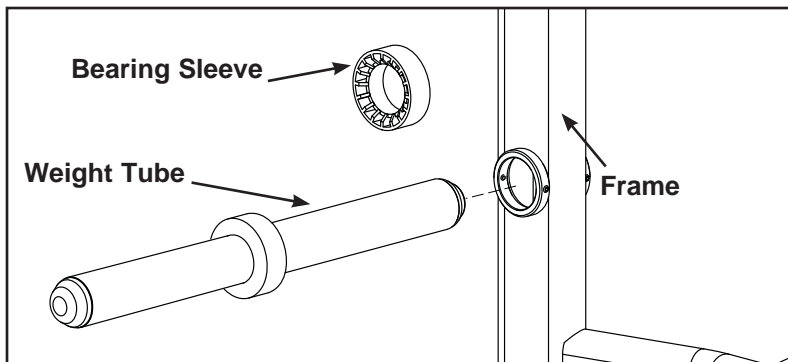

Figure 4
- B. Insert weight tube through frame. See Figure 4.